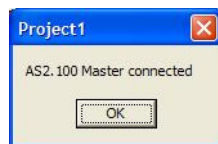

Figure 7
5. Wait for automatic connection, a popup is displayed as in Figure 7. If connection is not automatic the press the “connect” button. If there is no response there is a problem with the USB connection or your operating system that can not detect the USB device